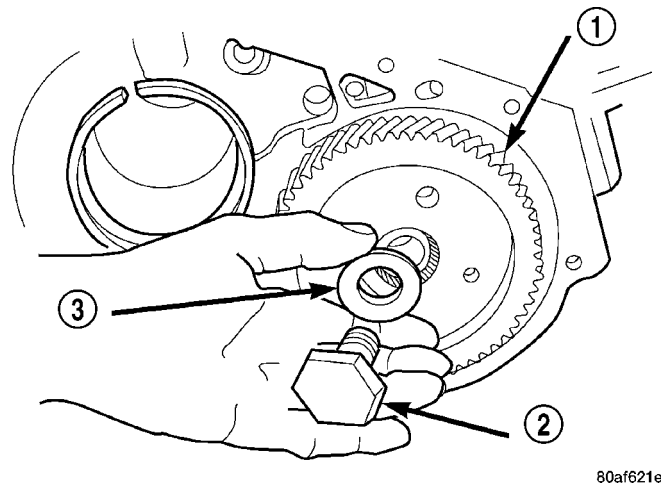
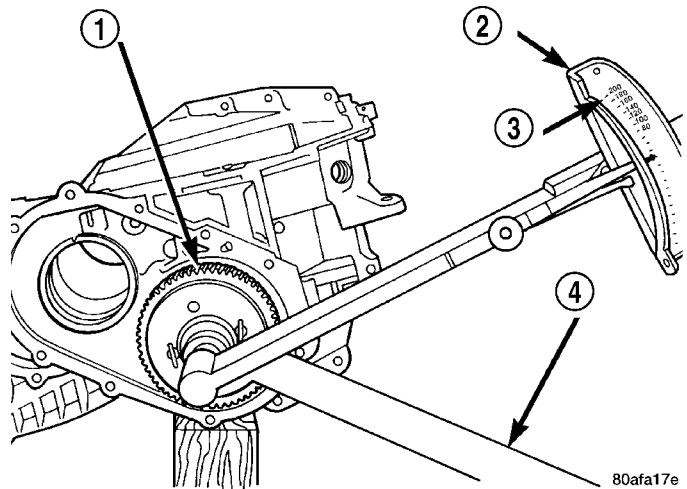

Fig. 103 Output Gear Bolt and Washer
Fig. 104 Tighten Output Gear to 271 N·m (200 ft. lbs.)
(16) Install NEW output gear retaining bolt and washer (Fig. 103). Using Tool 6259, torque output gear retaining bolt to 271 N·m (200 ft. lbs.) (Fig. 104).